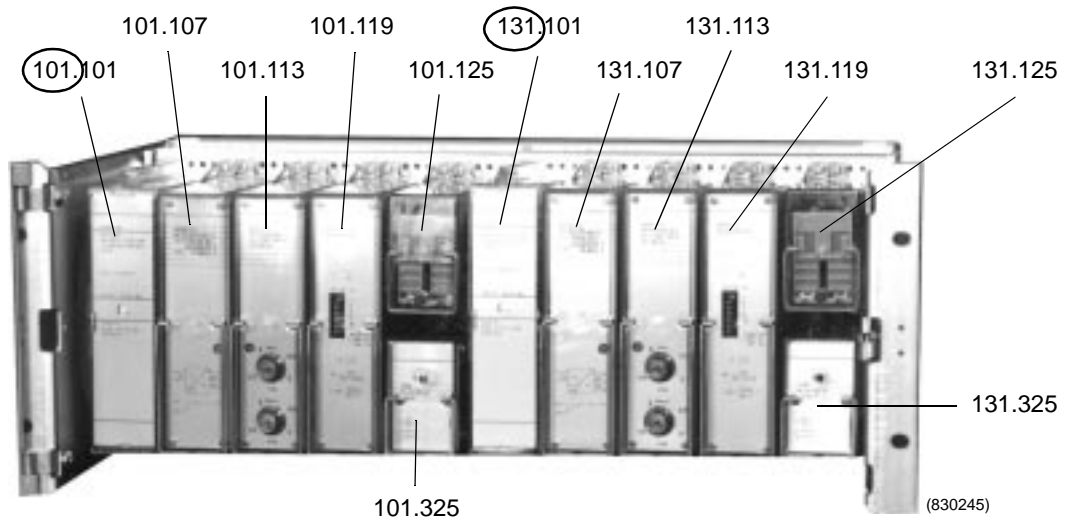

Fig. 9 Two of the same protective relays, the encircled 101 and 131, mounted in an equipment frame.
- d) The C-module designation for the right-hand relay in Fig. 9 together with the U-module designation 131 for the right-hand relay